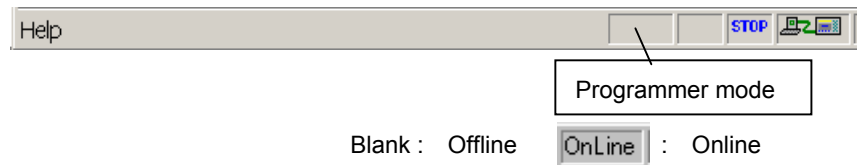

Fig. 3.3.1
- 1 Check the current programmer mode (offline or online). (See Fig. 3.3.1.)